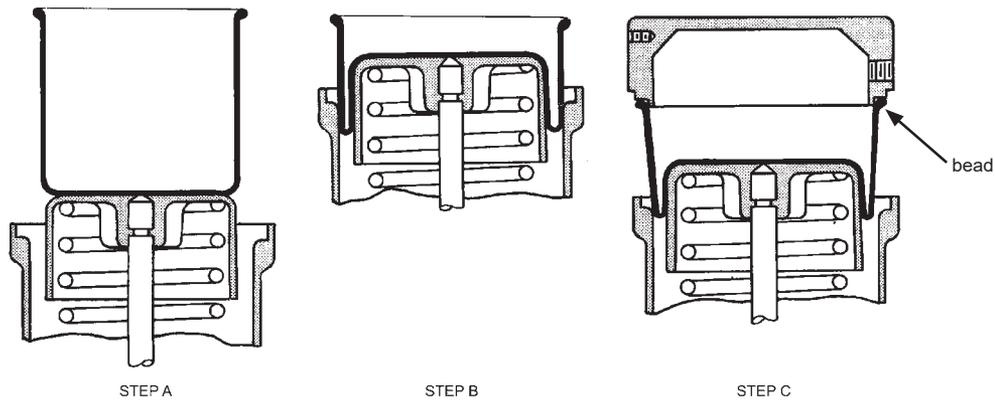

Figure 7 - Method 1
- H-1.** The inscription “Piston Side” is located on the diaphragm (40). If used, apply cement to this side of the diaphragm.
- I-1.** Center and adhere diaphragm (40) to the top of the piston (43) (see Figure 7-Method 1, Step A).
- J-1.** Roll the diaphragm (40) inside the spring barrel (38) until the diaphragm is partially engaged in the spring barrel (see Figure 7-Method 1, Step B).